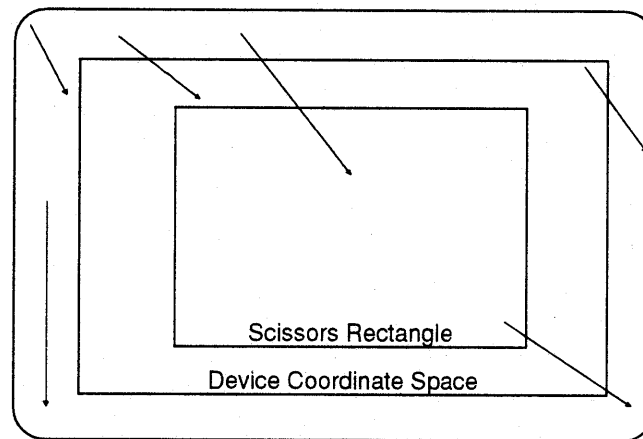

Figure 9-7. Exception generating patterned lines.
2. **Exception Lines**— are lines wholly or partially outside the device coordinate space. All lines shown in figure 9-7 generate exception conditions. The host processor is required to fully clip these lines to the device coordinate space. The patterned linedraw algorithm then attempts to draw these lines and update the PATTERN_INDEX counter.